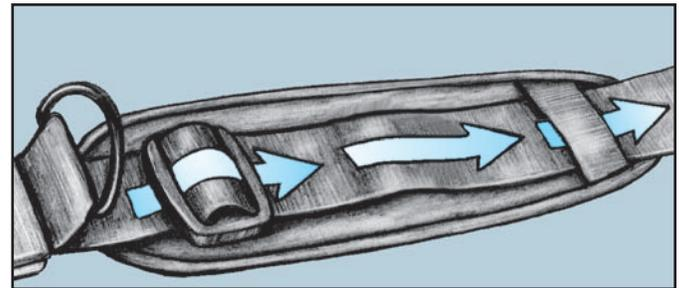

Fig. 2. How to thread the belt through a two-point pad.
2. Following the diagrams to the right, assemble the pads adjacent to the belt buckle, one on each side (figs. 2 and 3).